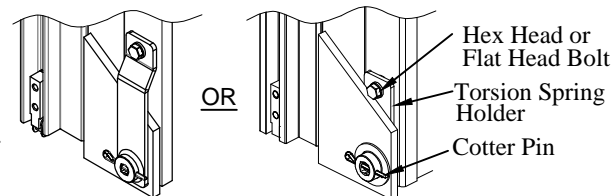

Figure 4A:
9. **REMOVE** the platform from the slider noses (skip if Figure 4A).